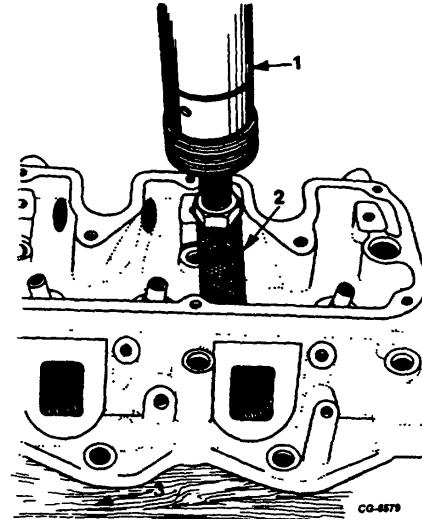

Figure 37. Installing Valve Guide
13. Insert top end of valve guide into staller tool. Lubricate O.D. of valve guide with a commercial press-fit lubricant. Press valve guide into cylinder head (Figure 37) until installer tool rests firmly on top of head, thus obtaining proper valve guide height.